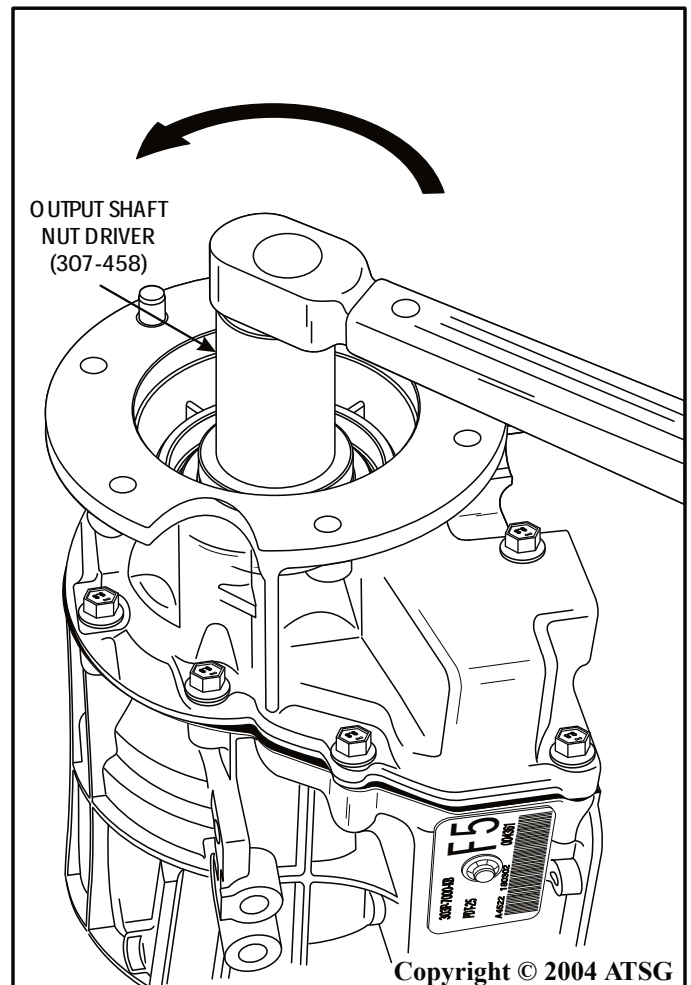

Figure 48
52. Rotate the transmission in holding fixture so extension housing is facing up, as shown in Figure 48.
53. Using the special socket 307-458, as shown in Figure 48, loosen the output shaft nut on the 4WD version.